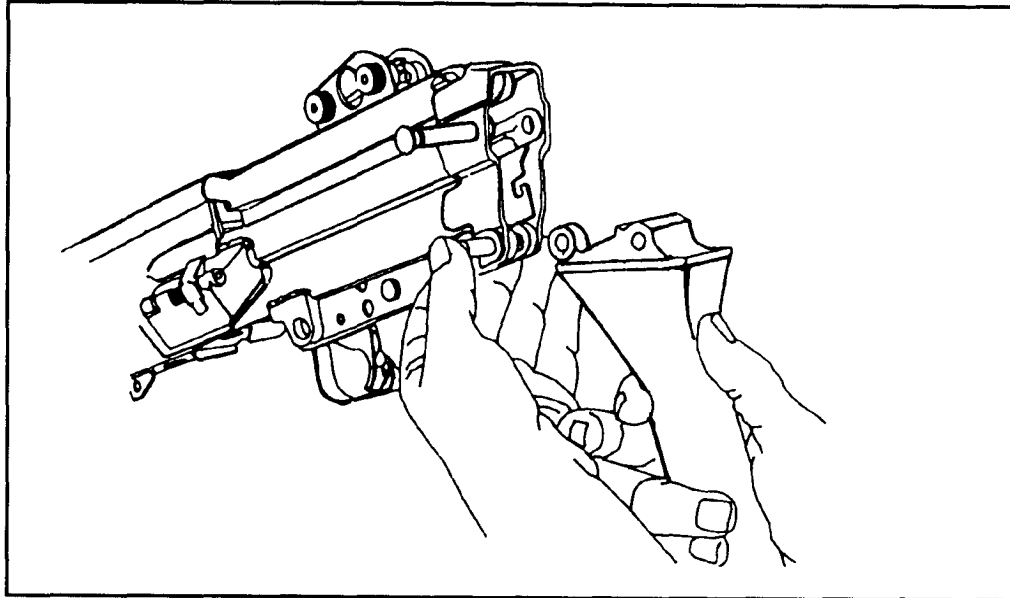

Figure 2-20. Replacing the buttstock and buffer assembly group.
d. **Replacing the Buttstock and Buffer Assembly Group.** Align the lower hole in the buttstock and buffer assembly with the rear hole in the trigger mechanism; then push the lower retaining pin to the right. (Figure 2-20.)